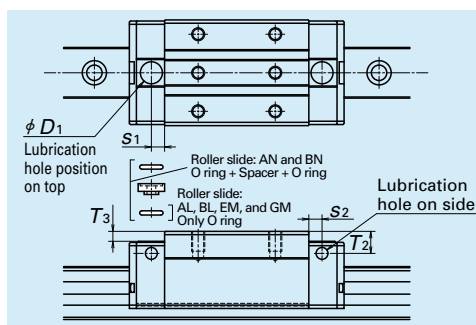

Fig.13 Top and side lubrication hole positions
- A lubrication hole can also be provided on the top of the end cap. **Fig.13**, **Table 9** and **Table 10** show the mounting position. A spacer is required for AN and BN shape roller slides. The spacers are available from NSK.